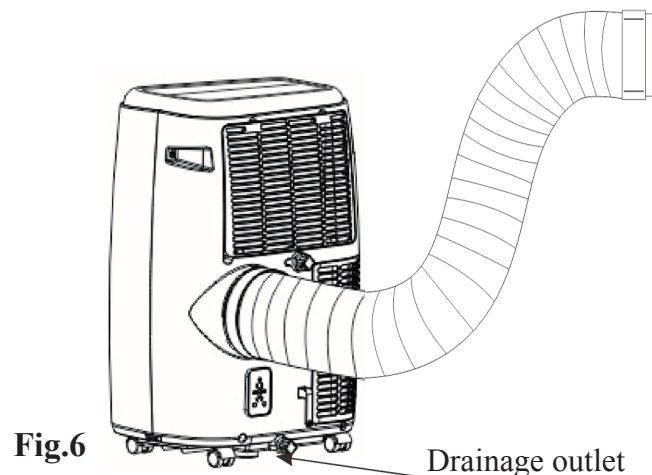

Fig.6
- 3) As shown in Fig. 6, Connect drain hose well (only for using heating model);